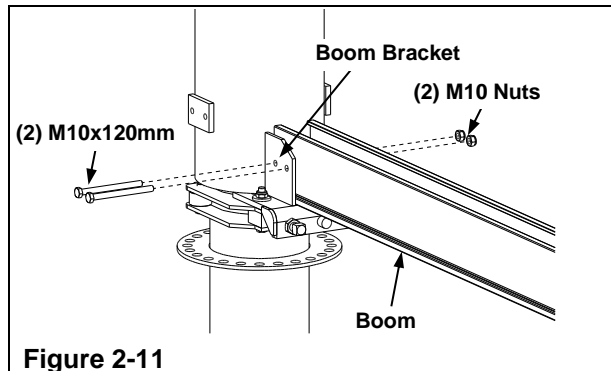

Figure 2-11
- Step 1. Remove the (2) M10x120mm HHCS bolts, washers, and nuts from boom bracket. See Figure 2-11.
- Step 2. Lift boom and align boom into boom bracket and secure the (2) M10x120mm HHCS bolts and nuts. See Figure 2-11.